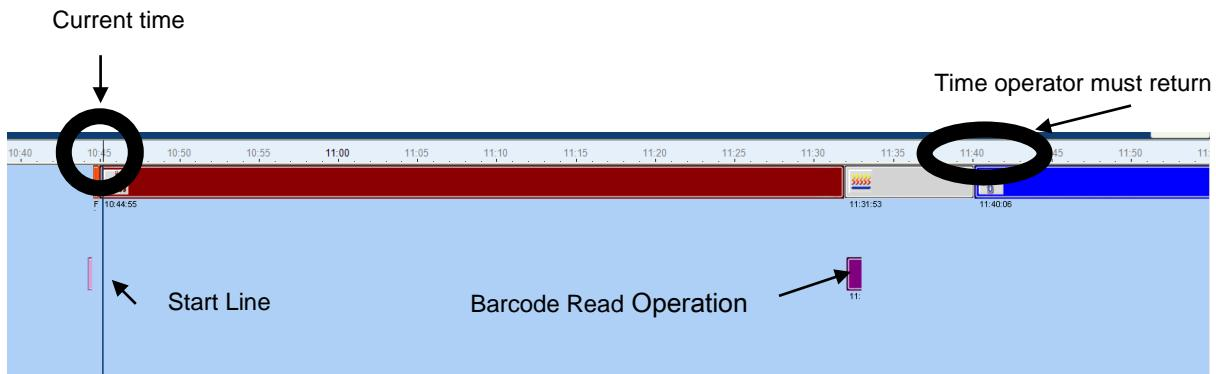

Figure 6-8: Barcode Scanning Samples for Second Worklist in Continuous Load
- c. If there is a delay before scanning (see Figure 6-8), the operator must return to the DS2 prior to the point barcode scanning is to occur.